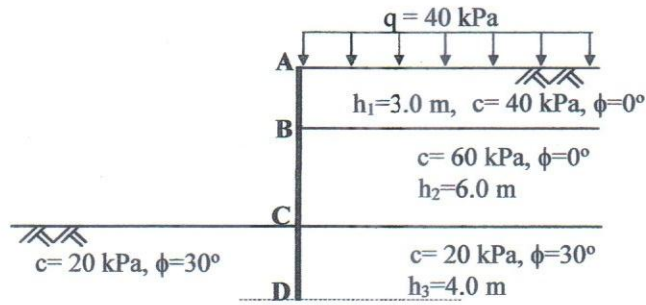

Fig.3
- 6(a) What is the critical depth in active earth pressure condition? Derive the expression of the critical depth (H_c) for both $c - \phi$ and c soils. (5)
- (b) Answer the following questions related to Fig. 3. Use, $\gamma = 18.0 \text{ kN/m}^3$ for all layers. (20)